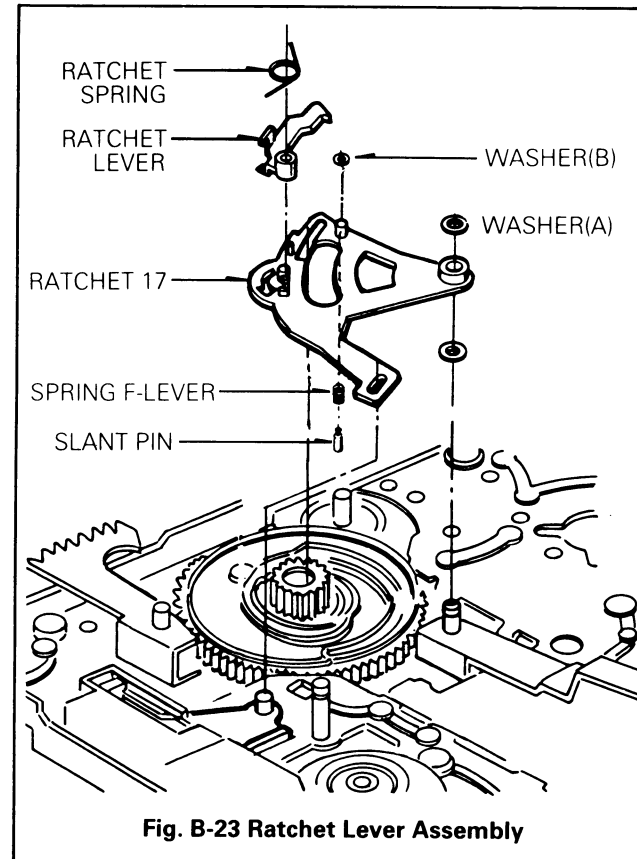

Fig. B-23 Ratchet Lever Assembly
23. Ratchet Lever Assembly(Fig. B-23)